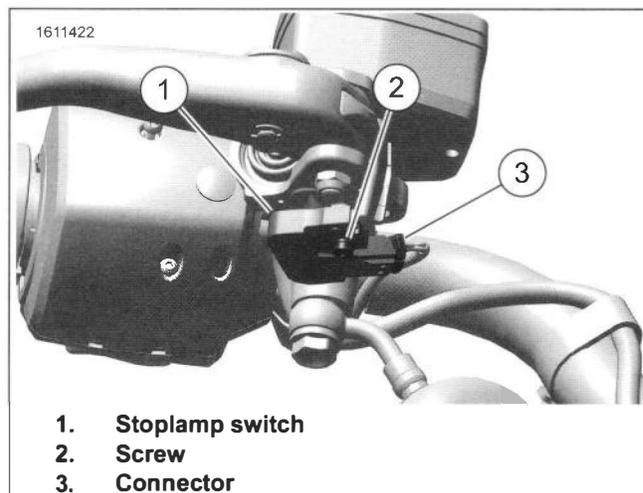

Figure 8-33. Front Stoplamp Switch
1. See Figure 8-33. Disconnect connector (3).
2. Remove screw (2).
3. Remove stoplamp switch (1).
1. See Figure 8-33. Place stoplamp switch (1) in position.
2. Install screw (2). Tighten.